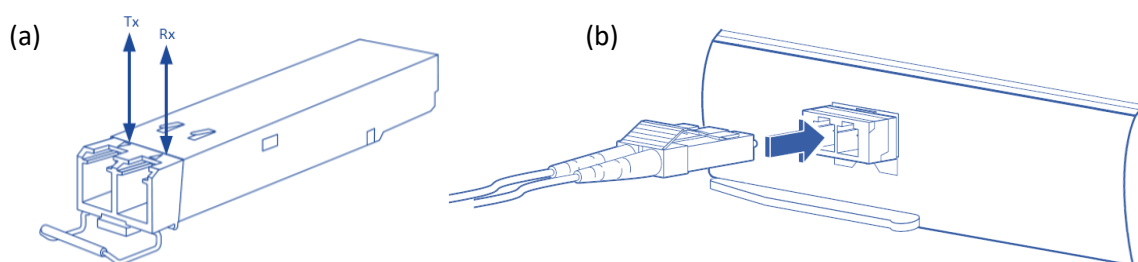

Figure 15 – Interface connecting to the SFP+ Module
- d. On Fiber channel 0 both the TX and RX fiber cables must be connected. On channels 1 through 3 only one fiber cable should be connected. This cable is connected between TX output (Marked with TX or Arrow outwards the SFP+) on the camera and RX input (Marked with RX or Arrow inwards the SFP+) on the Frame Grabber, as shown in figure 15 (a).
3. Insert the fiber cable into the module, as shown in figure 15 (b).
3. Open the bale clasp on the SFP+ module with your index finger, or a small flat-blade screwdriver, in a downward direction, as shown in figure 15.